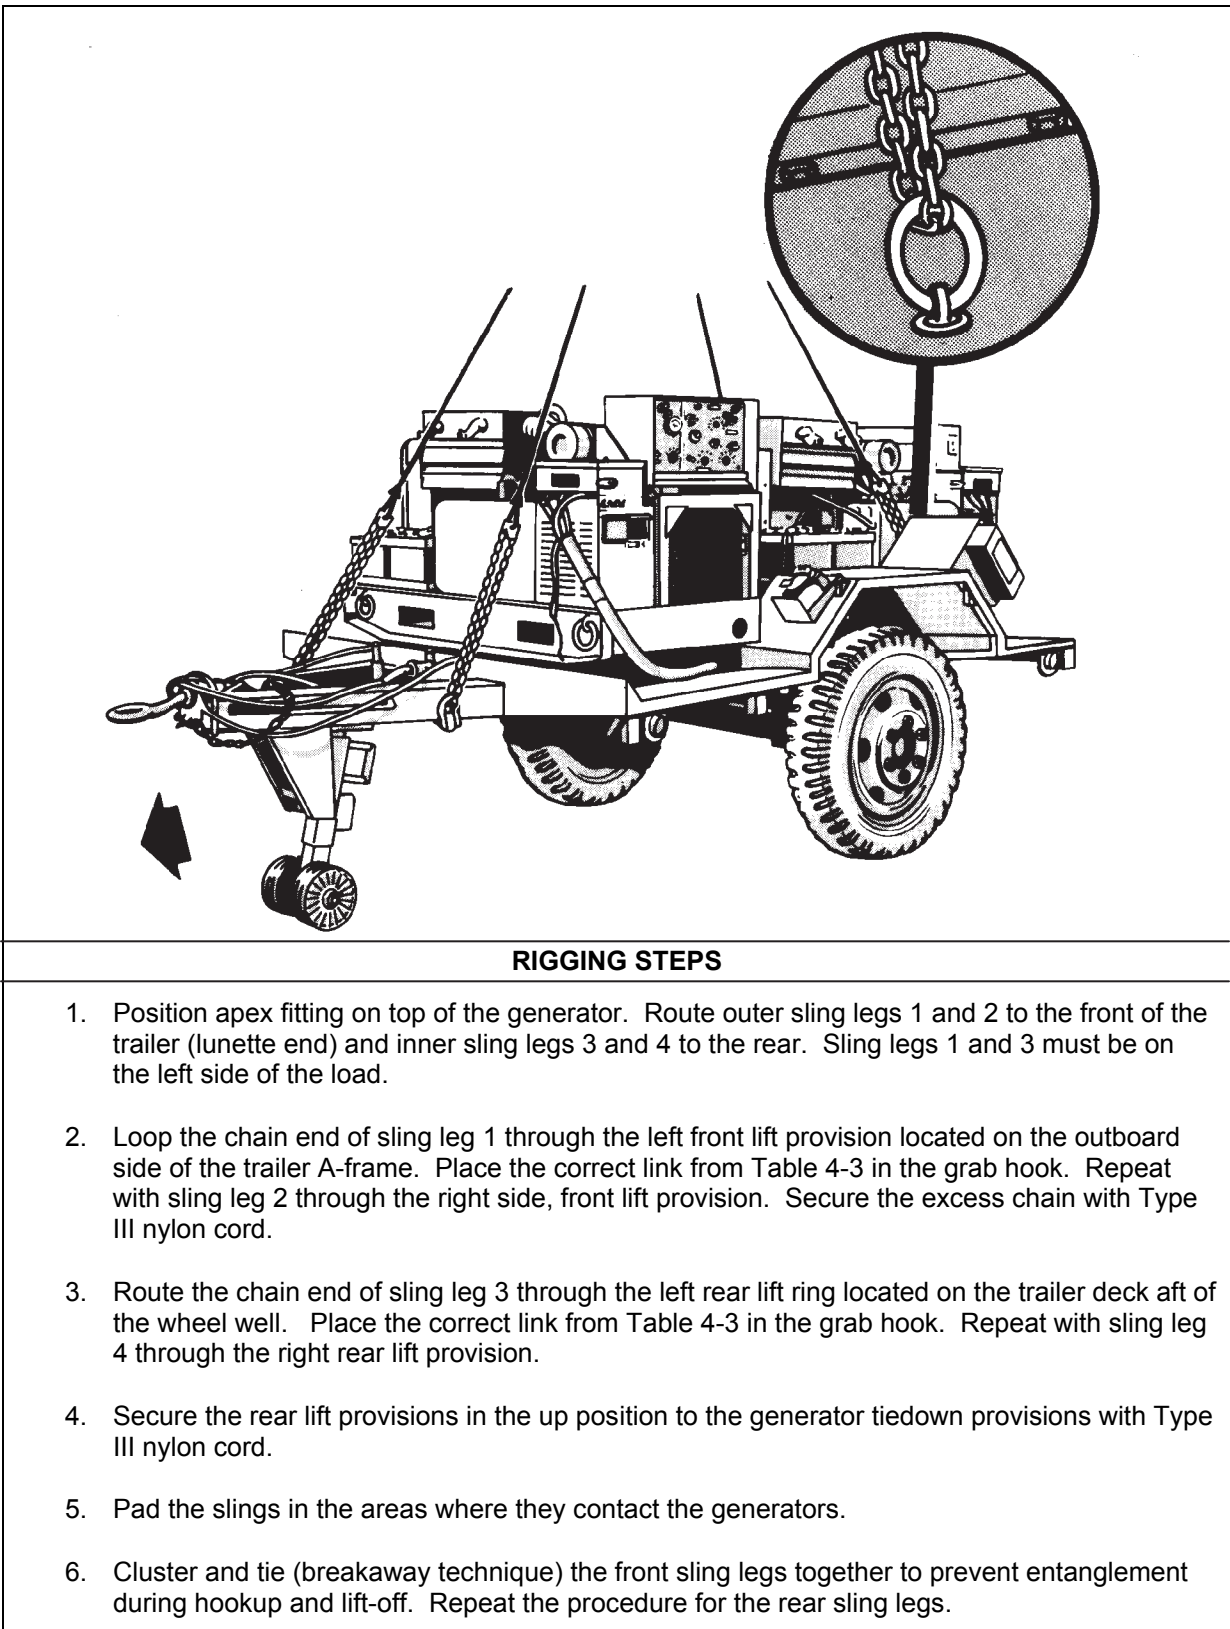

Figure 4-3. M103A3 Trailer-Mounted Power Units, Generators, and Power Plants
- **Rigging.** Rig the load according to the steps in Figure 4-3.